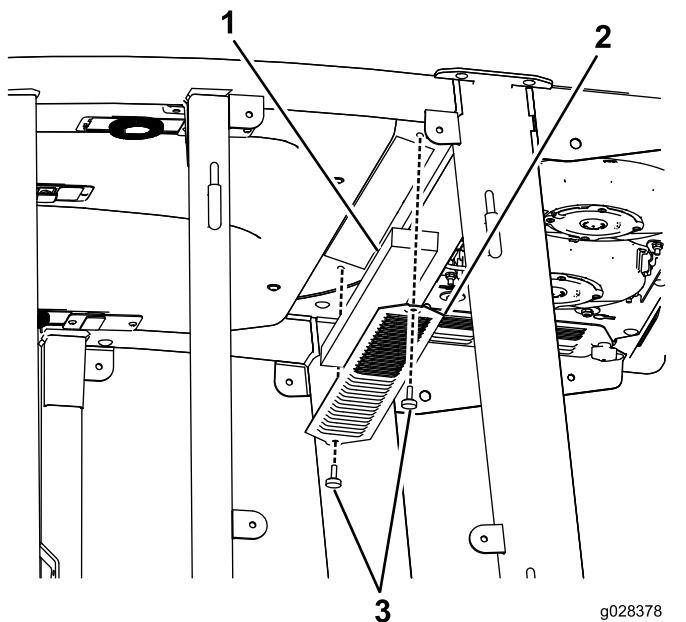
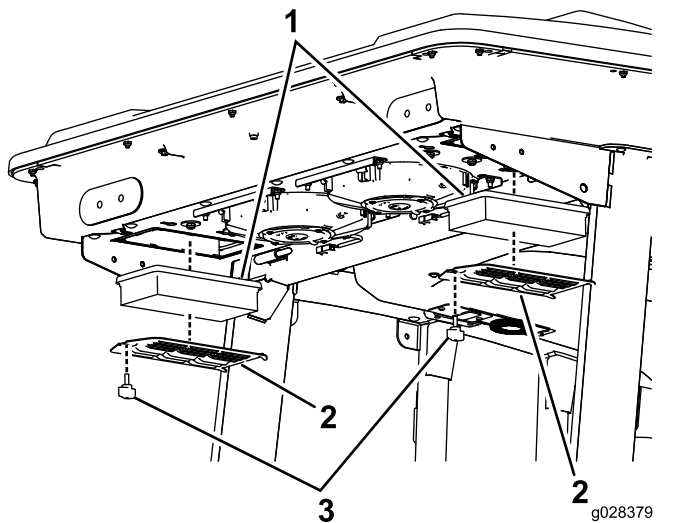
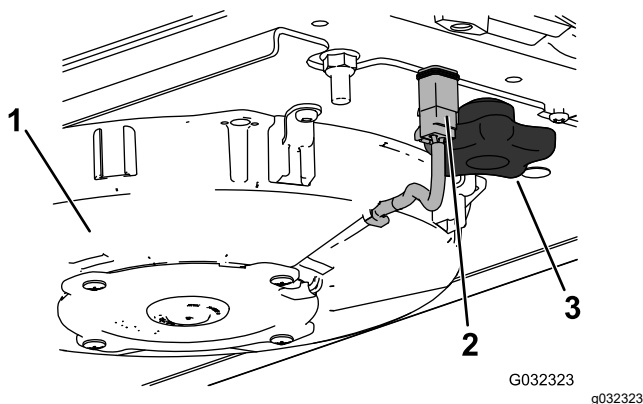
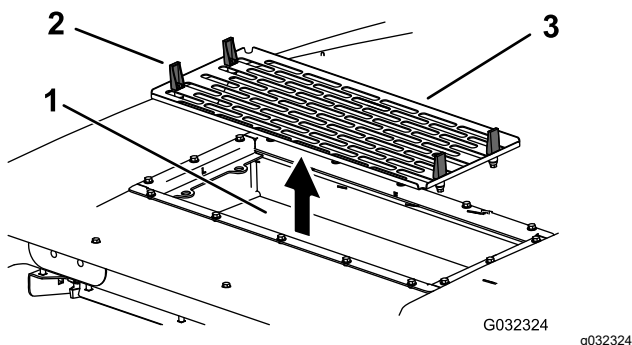

Figure 94
Figure 95
Figure 97
Figure 98
1. Remove the screws and grates from both the in-cab and rear cab air filters (Figure 94 and Figure 95).
4. Remove the air filters (see Figure 95).
6. Install the air filters, screen, and fan assembly (Figure 95, Figure 97, and Figure 98).
7. Connect the wire for each fan (Figure 97).